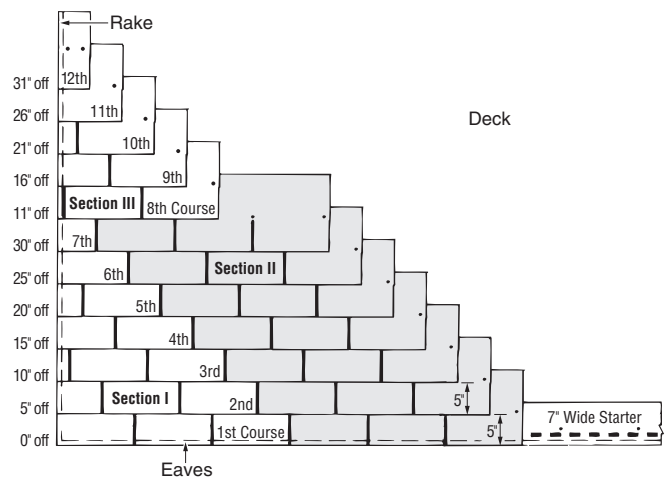

Figure 13-9: Five Off, Twelve Up.
1. Start the first course with a full shingle at the lower left corner of the roof. Make the tabs flush with the starter course and be sure to use four fasteners in each shingle (Figure 13-9).
**"SECTION II" SHINGLES:** All "Section II" shingles are left uncut. These shingles are to be butted-up against the "Section I" shingles that started courses one through seven. Fasten all shingles in the standard fashion (Figure 13-9).
1. Begin "Section III" in the eighth course with a shingle having 11" cut off its left end. Install the 25" piece above the seventh-course shingles, making it flush with the left edge of the seventh-course shingle and leaving 5" of the seventh course exposed. Fasten at the two standard locations, plus 1  $\frac{1}{4}$ " in from the left edge (Figure 13-9).
2. The next four courses, up to and including the twelfth course, will start with a shingle 5" shorter than the first shingle of the course just below it. This means that the first shingle for the ninth, tenth, eleventh and twelfth courses will be 20", 15", 10" and 5" long, respectively. Study the diagram in *Figure 13-9* if you're not sure what to do. Remember to expose each course 5" to the weather, and fasten at the standard locations and 1 1/4" in from each edge. Complete courses across the roof with full shingles.